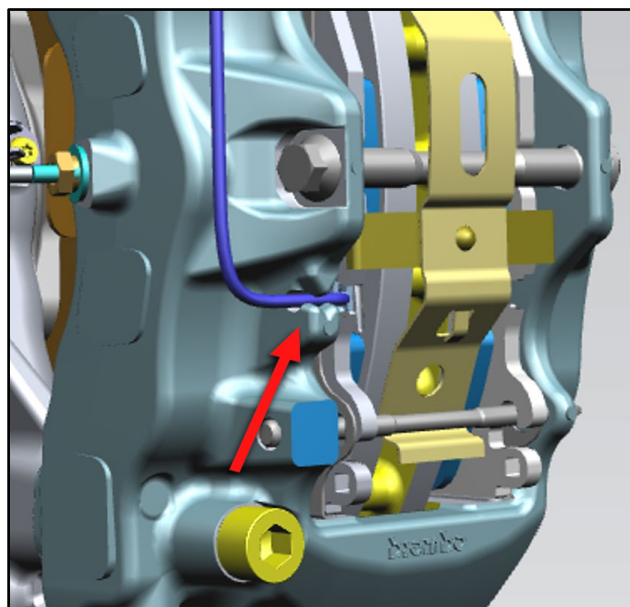

Figure 10
- 13. Make sure the grey area of the sleeve is pushed into the caliper body slot (refer to Figure 10).